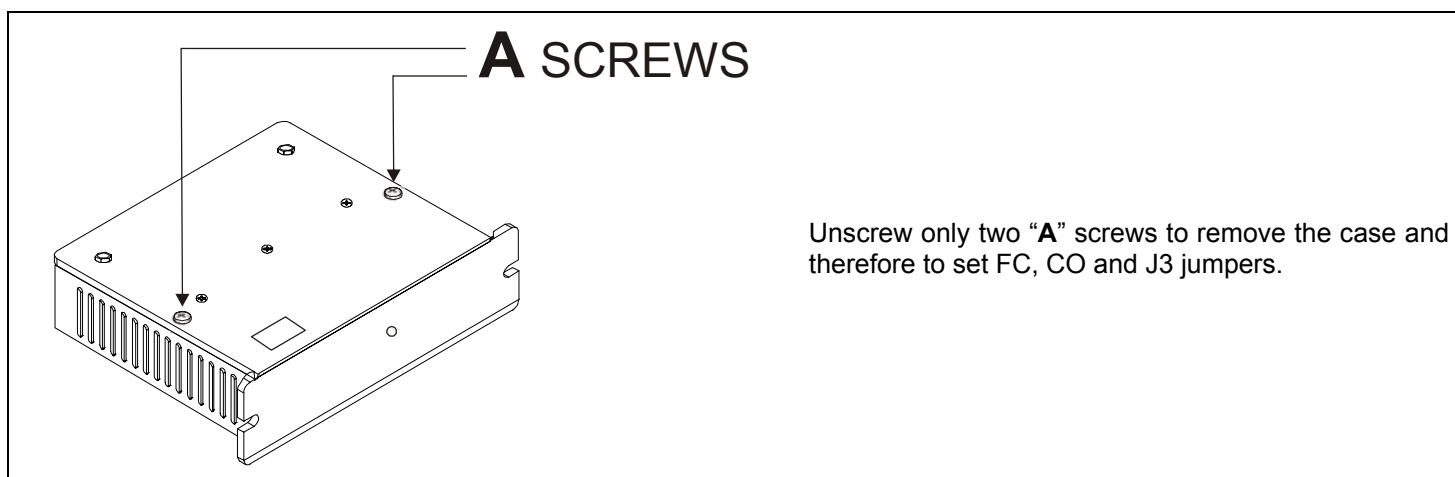

Fig. 6
**NOTE:** For NDC 94 and NDC 96 models, remove the case to set FC, CO and J3 jumpers (see Fig. 6).